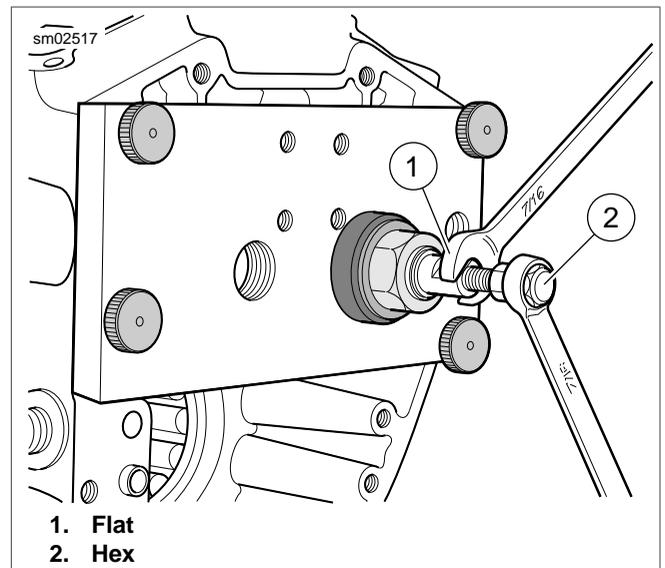

Figure 3-114. Expanding Collet by Turning Hex Clockwise
11. See Figure 3-114. Using a 15/16 in. open end wrench, turn hex nut in a clockwise direction until bearing is free. If necessary, hold flat on collet to prevent rotation.